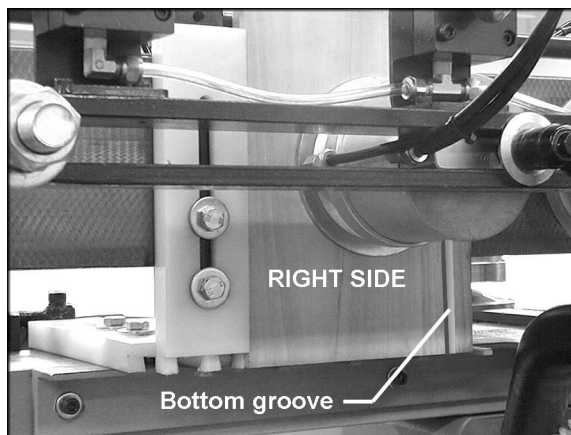

Figure 29
4. Place the drawer RIGHT SIDE against the vertical table and on top the fixed chaser. The RIGHT SIDE should be flush against the fence, with the bottom groove facing outward and opposite the fence (Figure 29).